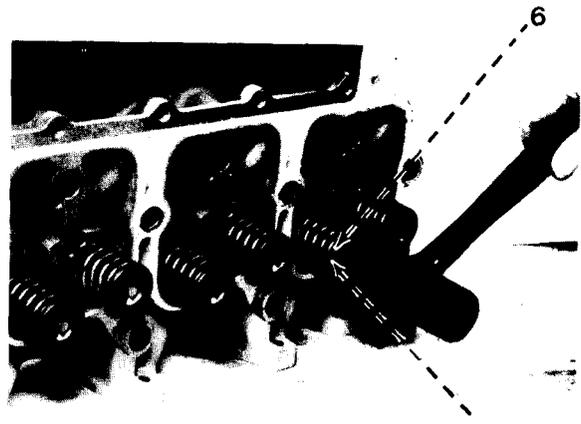

Figure 6-23
4. After assembly, tap valve stems (8) to verify collets (6, Figure 6-23) are seated.